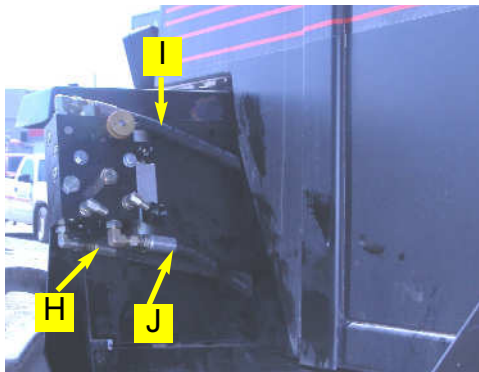

Figure 4a. Installed pressure hose.
- a. Install the provided pressure hose (I) between the P port of the Automated Steering Block and the left, rear port on the steering orbital. (Figure 4a. and 4b.)